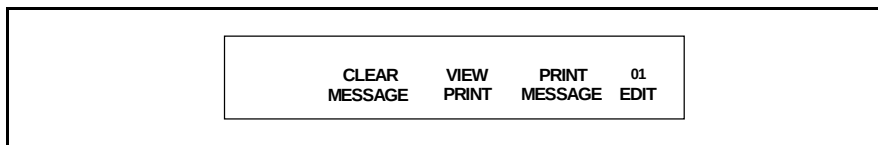

Figure 6-2. Frame <01 EDIT>
1. Begin in Frame <01 EDIT>. Refer to Figure 6-2.